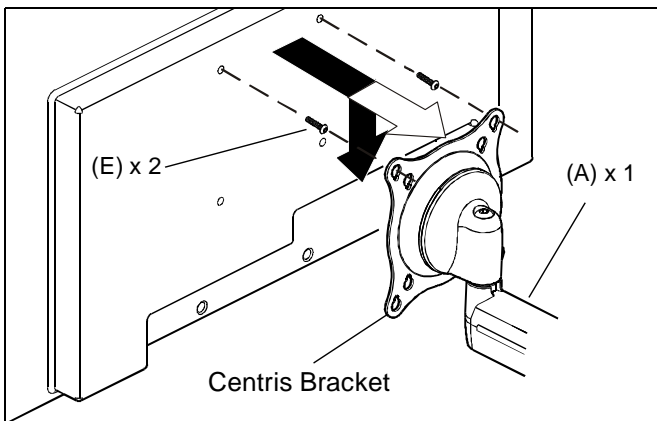

Figure 2:
2. Using Phillips screwdriver, carefully install two screws (E) into the *upper* mounting holes on the display. Thread screws completely into display, then back out 3 complete turns. (See Figure 2)
3. Pick up and align display so that screws (E) (installed on the back of the display in the previous step) fit into the mounting holes on the Centris bracket; rotate the bracket as required (See Figure 2). Lower the display into place.